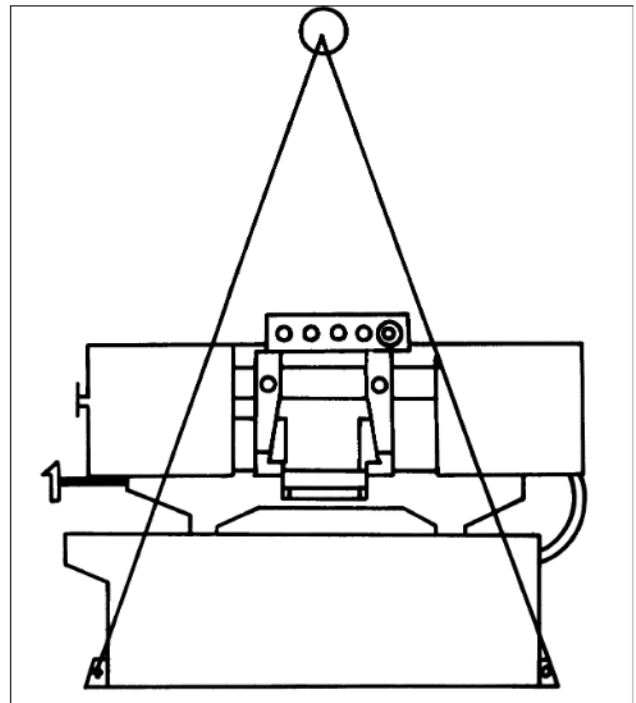

Fig. 1
1. Using lifting straps of adequate lifting capacity, that are isolated from the bandsaw's finished surfaces, lift machine and place in desired location. See Figure 1 for strap placement.